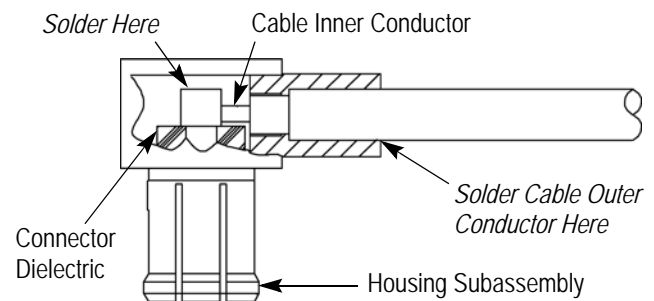

Figure 3
3.2. Soldering Cable to Housing Subassembly (Figure 3)